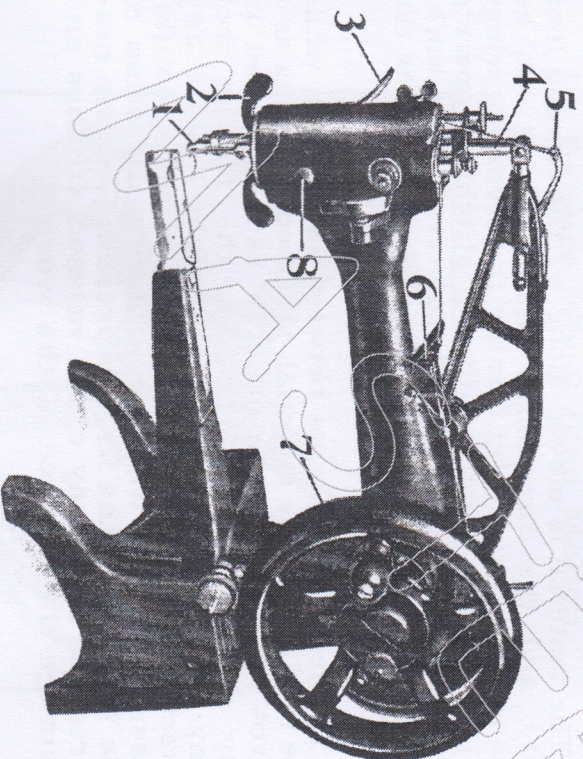
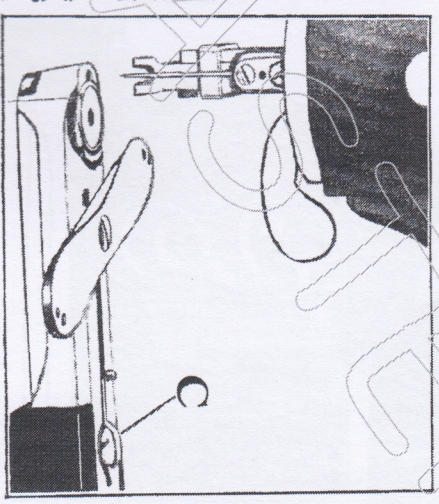
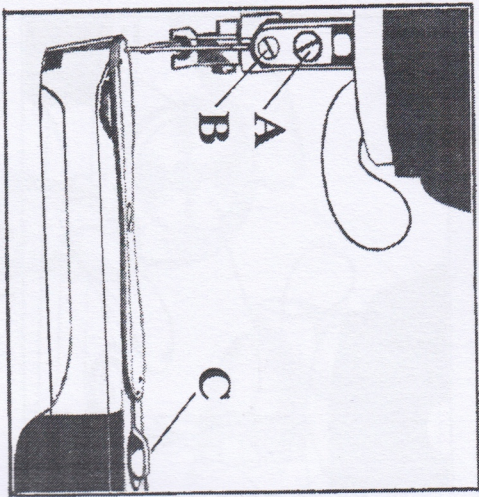
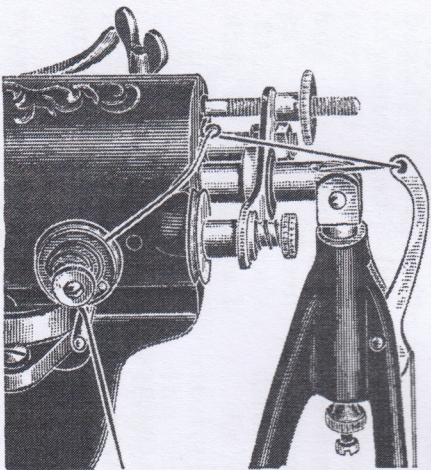

Fig. 1.
Fig. 8.
Fig. 10.
Fig. 12.
(See Fig. 1.)
Raise the needle bar to its highest point and lift the feeding foot (1, Fig. 1) by means of the lifter (3, Fig. 1). Press down the lever (C, Fig. 8) and swing the needle plate round, as shown in Fig. 8. Turn the balance wheel until the point of the shuttle is nearest you, then lift out the shuttle with the thumb and fore-finger; turn it over and the bobbin will drop out.
After threading the shuttle, turn the balance wheel until the upright part of the shuttle carrier is to the right. Then, with the point of the shuttle nearest you, and pointing towards the right, drop it into the recess provided, as shown in Fig. 8. Raise the needle bar to its highest point, press the lever (C), and turn back the needle plate to its sewing position.
Raise the needle bar (4, Fig. 1) to its highest, loosen the screw (B, Fig. 10) and insert the shank of the needle up into the needle clamp as far as it will
Place a reel of thread on the spool pin on the arm of the machine, so that the thread will draw from the back. Raise the wire guide in the oil cup (6, Fig. 1) on the top of the arm and, after passing the thread under the wire guide, press it back into position. Then pass the thread at the back of the pin which is near the tension discs on the top of the machine head, from back to front and right to left between the tension discs, into the wire thread eyelet, and up and from front to back through the hole in the end of the take-up lever (5, Fig. 1). Draw about 10 inches of thread and insert the end into the slit in the end of the threading wire supplied with the machine. Now pass the wire from
the back of the lever (5, Fig. 1) down through the hole in the centre of the needle bar. Remove the thread from the wire, withdraw the latter, and thread the needle from left to right, leaving an end 3 or 4 inches long with which to commence sewing.
(See Fig. 12)
Raise the wire guide in the oil cup (6, Fig. 1) on the top of the arm and, after passing the thread under the wire guide, press it back into position. Then pass the thread over the pin near the tension discs in front of the arm (see Fig. 12), from right to left under and between the tension
discs, up into the wire eyelet on top of the arm of the machine, and from front to back through the hole in the end of the take-up lever (5, Fig. 1). Draw about 10 inches of thread and insert the end into the slit in the end of the threading wire supplied with the machine. Now pass the wire from the back of the lever (5, Fig. 1) down through the hole in the centre of the needle bar. Remove the thread from the wire, withdraw the latter, and thread the needle from left to right, leaving an end 3 or 4 inches long with which to commence sewing.
Raise the needle bar to its highest point by turning the balance wheel, lift the feeding foot by means of the lifter (3, Fig. 1), and draw the material backward about 3 inches; then, cut the threads close to the work. Leave both ends of thread under the feeding foot.
The travel of the take-up lever (5, Fig. 1) is regulated by means of the knurled nut (A), the barrel of which is marked with the figures 0 to 4. This indicator provides a useful guide to the operator in arranging the take-up movement most suitable for the material and thread being used. In the case of thin materials such as Kid or Box Calf, turn the knurled nut (A) until the zero mark is opposite the small plunger. Other adjustments can be made in steps by turning the nut to suit any thickness of material and thread within the capacity of the machine.